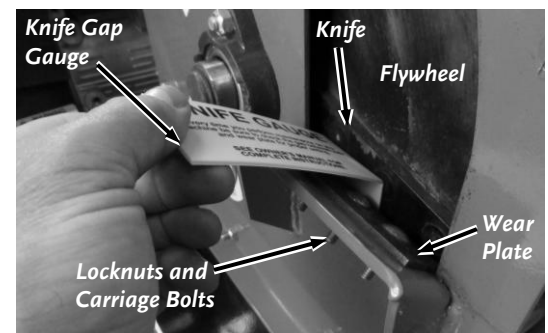

Figure 5
2. Use a stick to rotate the Flywheel so the Knife is positioned next to the Wear Plate (**Figure 5**).